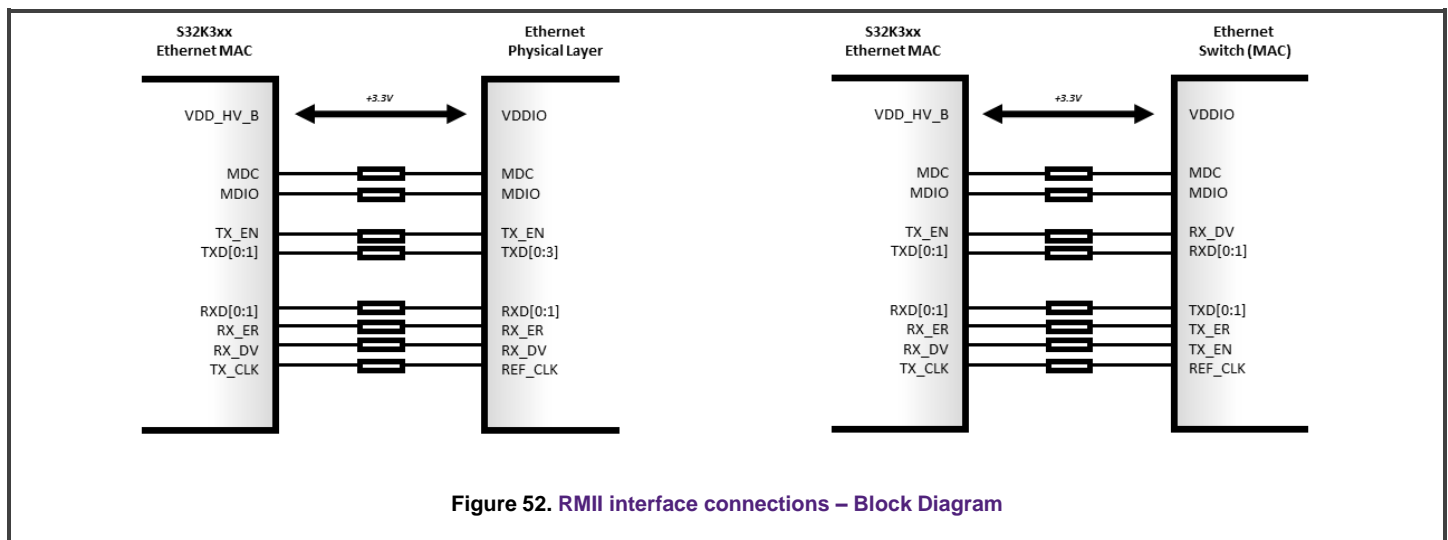

Figure 52. RMII interface connections – Block Diagram
**RMII signaling:** RMII data is exchanged via 2-bit data signals TXD[1:0] and RXD[1:0] as shown in Figure 52. Transmit and receive signals are synchronous with the shared reference clock, REF\_CLK.